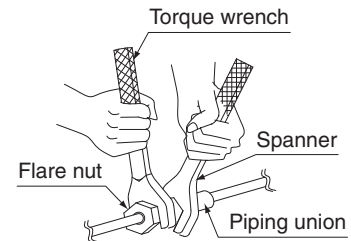

Fig. 3
- (1) Connect the piping.
- When connecting or disconnecting piping to or from the unit, **be sure to use two spanners and two torque wrenches. (Refer to Fig. 3)**